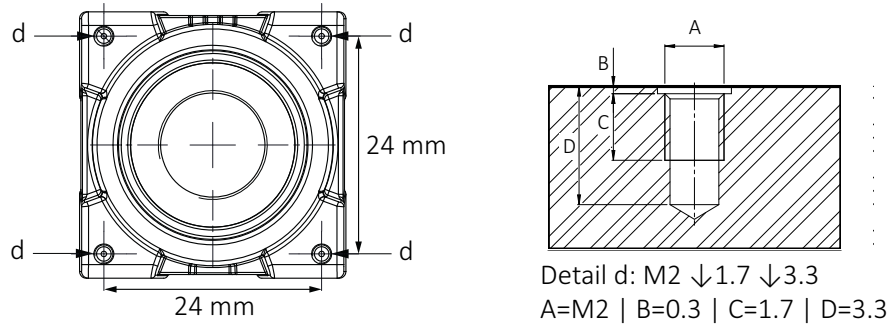

Figure 62: Camera front with mounting threads (c)
1. Mount the camera to the base using suitable M2 screws at 0.17 Nm maximum torque for a thread engagement (C) of 1.7 mm between screws and mounting threads, see Figure 62. For technical drawings, see G1 Closed Housing: Dimensions and mass on page 157.